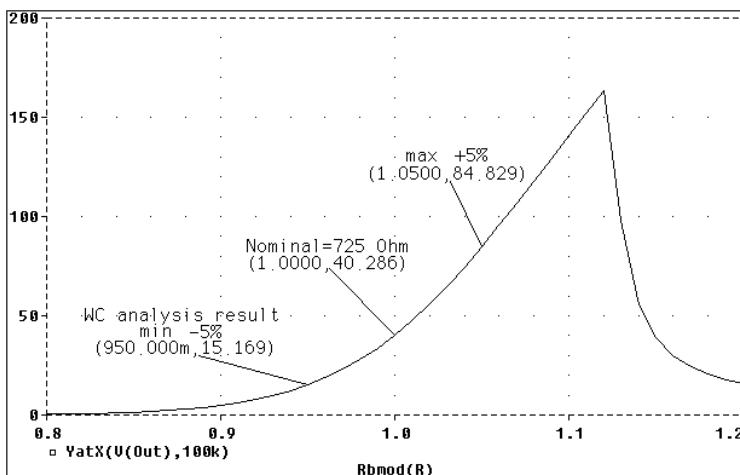
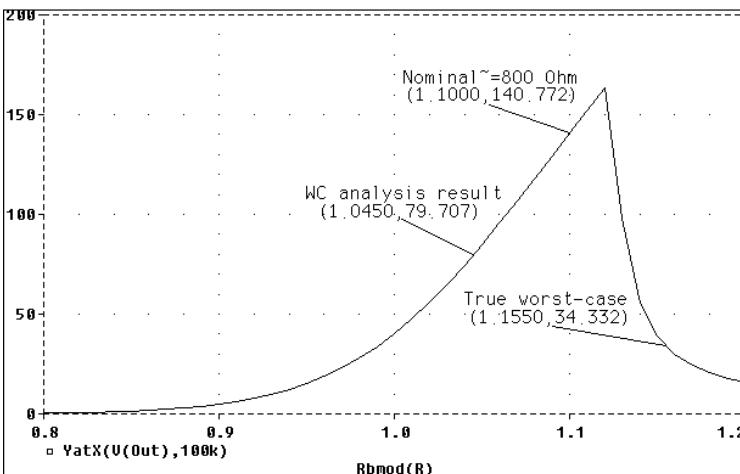

Figure 88 Correct worst-case results.
Figure 89 Incorrect worst-case results.
output is not monotonic with a variable parameter (see Figure 88 and Figure 89)
For demonstration, the parametric analysis is run first, generating the curve shown in Figure 88 and Figure 89. This curve, derived using the YatX goal function shown in Figure 87 illustrates the non-monotonic dependence of gain on  $Rb2$ .
The first .MODEL statement leaves the nominal value of  $Rb2$  at 720 ohms. The sensitivity analysis increments R by a small amount and checks its effect on  $Vm([OUT])$ . This slight increase in R causes an increase in the base bias voltage of the BJT, and increases the amplifier's gain,  $Vm([OUT])$ . The worst-case analysis correctly sets R to its minimum value for the lowest possible  $Vm([OUT])$  (see Figure 88).
**Note** The YatX goal function is used on the simulation results for the parametric sweep (.STEP) defined in Figure 86. The resulting curves are shown in Figure 88 and Figure 89.
The second .MODEL statement scales the nominal value of  $Rb2$  by 1.1 to approximately 800 ohms. The gain still increases with a small increase in  $R$ , but a larger increase in  $R$  increases the base voltage so much that it drives the BJT into saturation and nearly eliminates the gain. The worst-case analysis is fooled by the sensitivity analysis into assuming that  $Rb2$  must be minimized to degrade the gain, but maximizing  $Rb2$  is much worse (see Figure 89). Note that even an optimizer, which checks the local gradients to determine how the parameters should be varied, is fooled by this circuit.